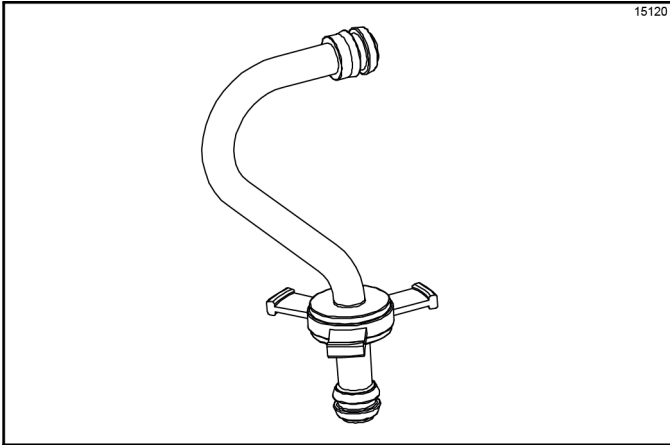

Figure 6-37
- 10. Assemble the feed tube assembly. Slide the check ring into the groove of the feed tube. (See Figure 6-37.)